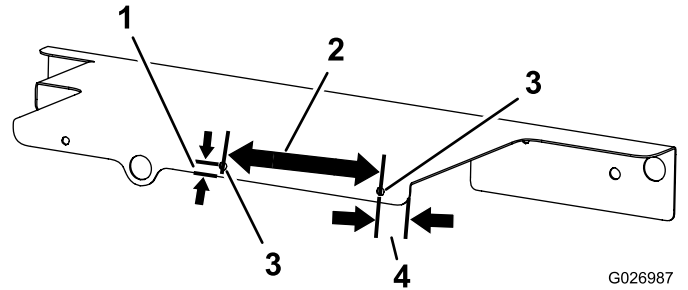

Figure 14
2. Drill 2 holes—8.6 mm (0.340 inch)—into the right cover shield (Figure 14).
Note: Refer to Figure 14 and measure the 8.6 mm (0.340 inch) hole locations